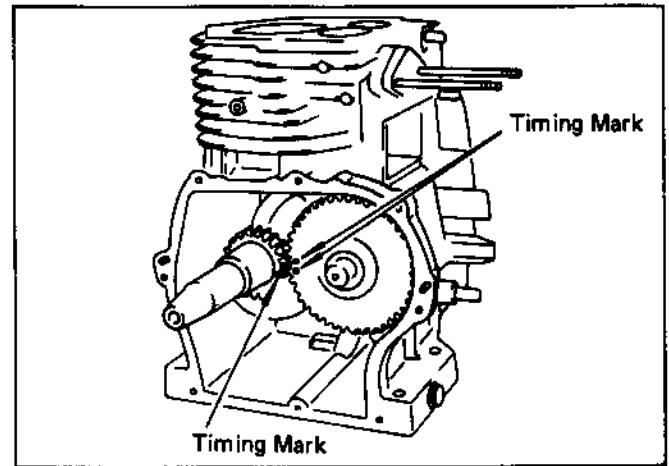

Fig. 32
**NOTE:** Align the timing mark at the root of a tooth of the cam gear with the one on the crank gear. If the valve timing is wrong, the engine cannot operate properly or at all. (See Fig. 32.)